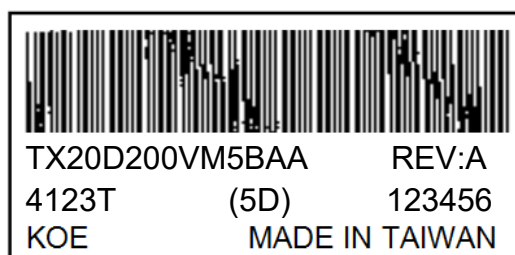

Fig. 13.2
- 4) The location of the lot mark is on the back of the display shown in Fig. 13.2.